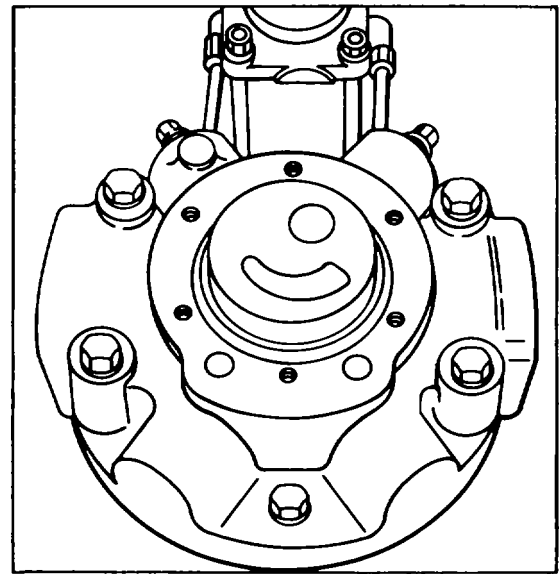

Figure 158
34. Install new O-ring (44) to outside of charge pump spacer (48). The direction of pump rotation is indicated by an arrow cast on the charge pump cover.
Install upper valve plate, over roll pin in spacer assembly (48). See Fig. 158..